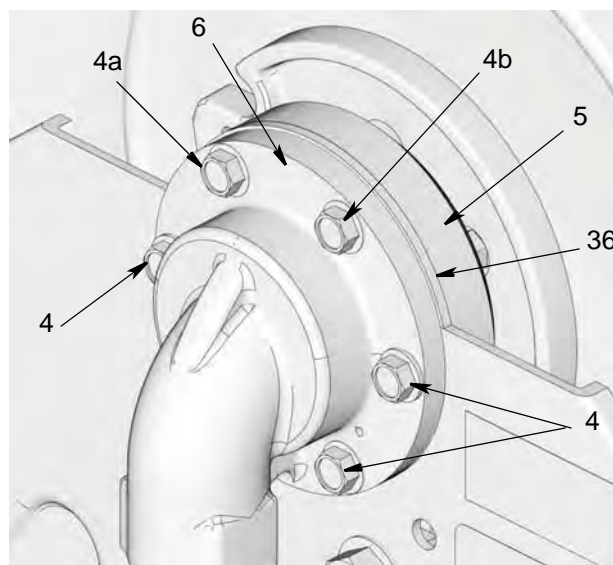

FIG. 24
9. First install the top 2 bolts (4a and 4b), through the frame and inlet (6), as shown in FIG. 24. Tighten bolts just enough to hold everything in place.
10. Then install the remaining bolts (4). Hand tighten and then torque all bolts to 25 to 35 ft. lbs (33.9 to 47.45 N•m).